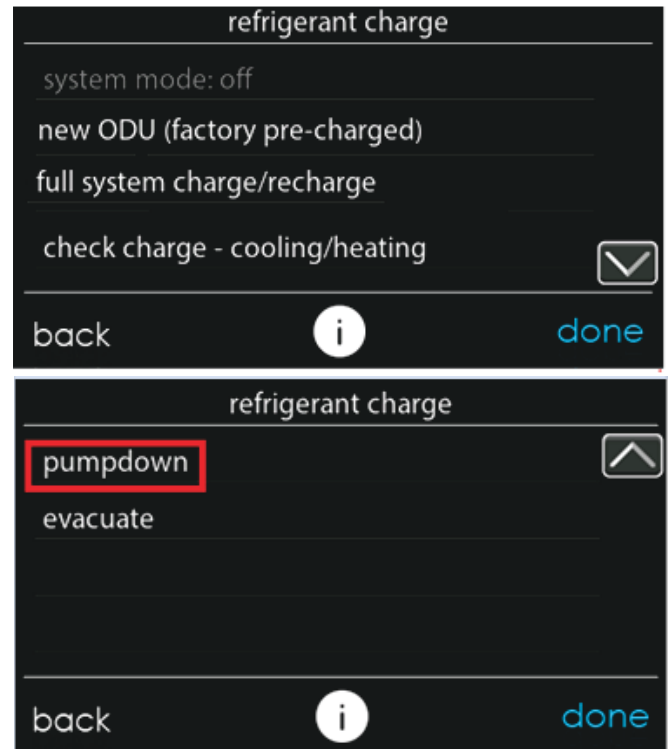

Fig. 23 – Pump Down and Evacuation Selection
2. In the "installation and service" menu of the Evolution™ Connex™ System Control (see Fig. 11), go to "refrigerant charging" and then "pump down" (see Fig. 12 and Fig. 23).